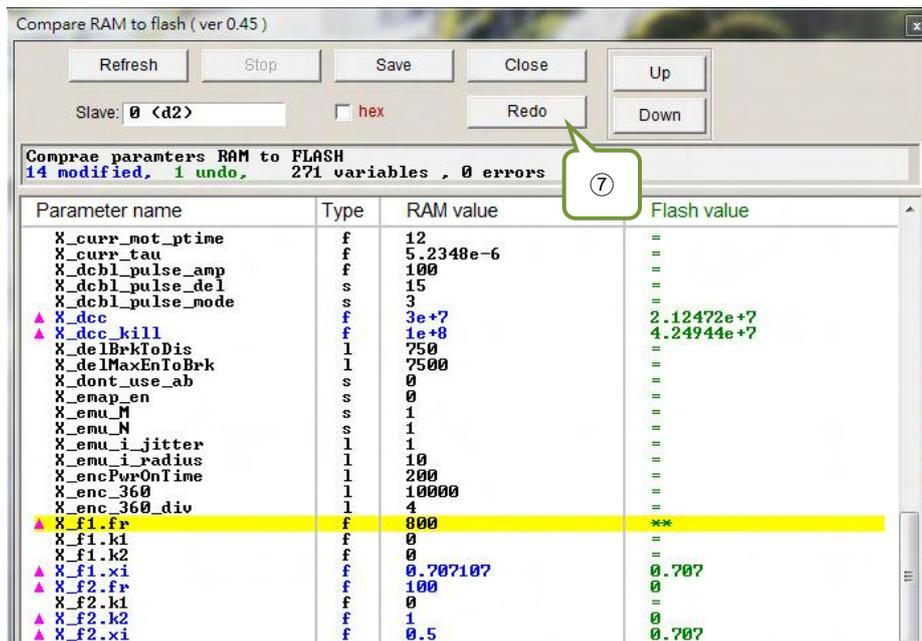

Figure 11.1.3
- (1) = : The parameter in Flash is the same as that in RAM.
- (2) **: The parameter has performed the “Undo” action and the value in RAM has been changed to that in Flash, as Figure 11.1.3 shows.